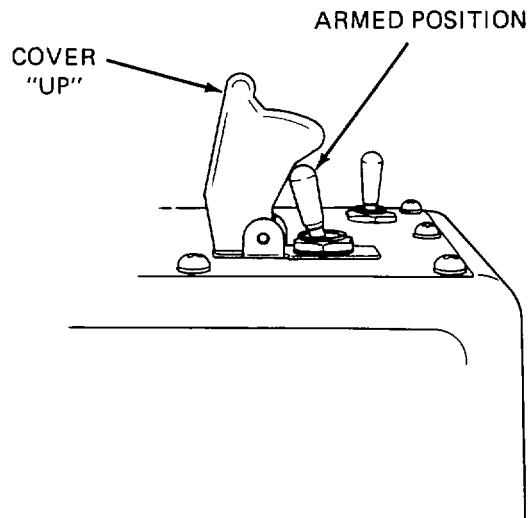

Figure 2-10. Emergency Stop Switch.
- (1) Perform your Before (B) PMCS (See Table 2-1).
- (2) Open the fuel tank vent fully (turn counterclockwise).
- (3) Check throttle for full open position.
- (4) Check air cleaner intake shutter for summer position.
- (5) Switch the platform/base switch on the BASE control in PLATFORM position.
- (6) Be sure that the EMERGENCY STOP switches on both the base and platform controls are in the armed position. See Figure 2-10.
- (7) Insert key into start switch and turn to START. Release key when engine starts.
- (3) Check throttle for full idle position.
- (4) Switch the platform/base switch on the BASE control in BASE position.
- (5) Be sure that the EMERGENCY STOP switch on the BASE control is in the armed (up) position. See Figure 2-10.
- (6) Shift the engine switch to the start position and hold until engine starts. Release switch when engine starts. Use choke as required.